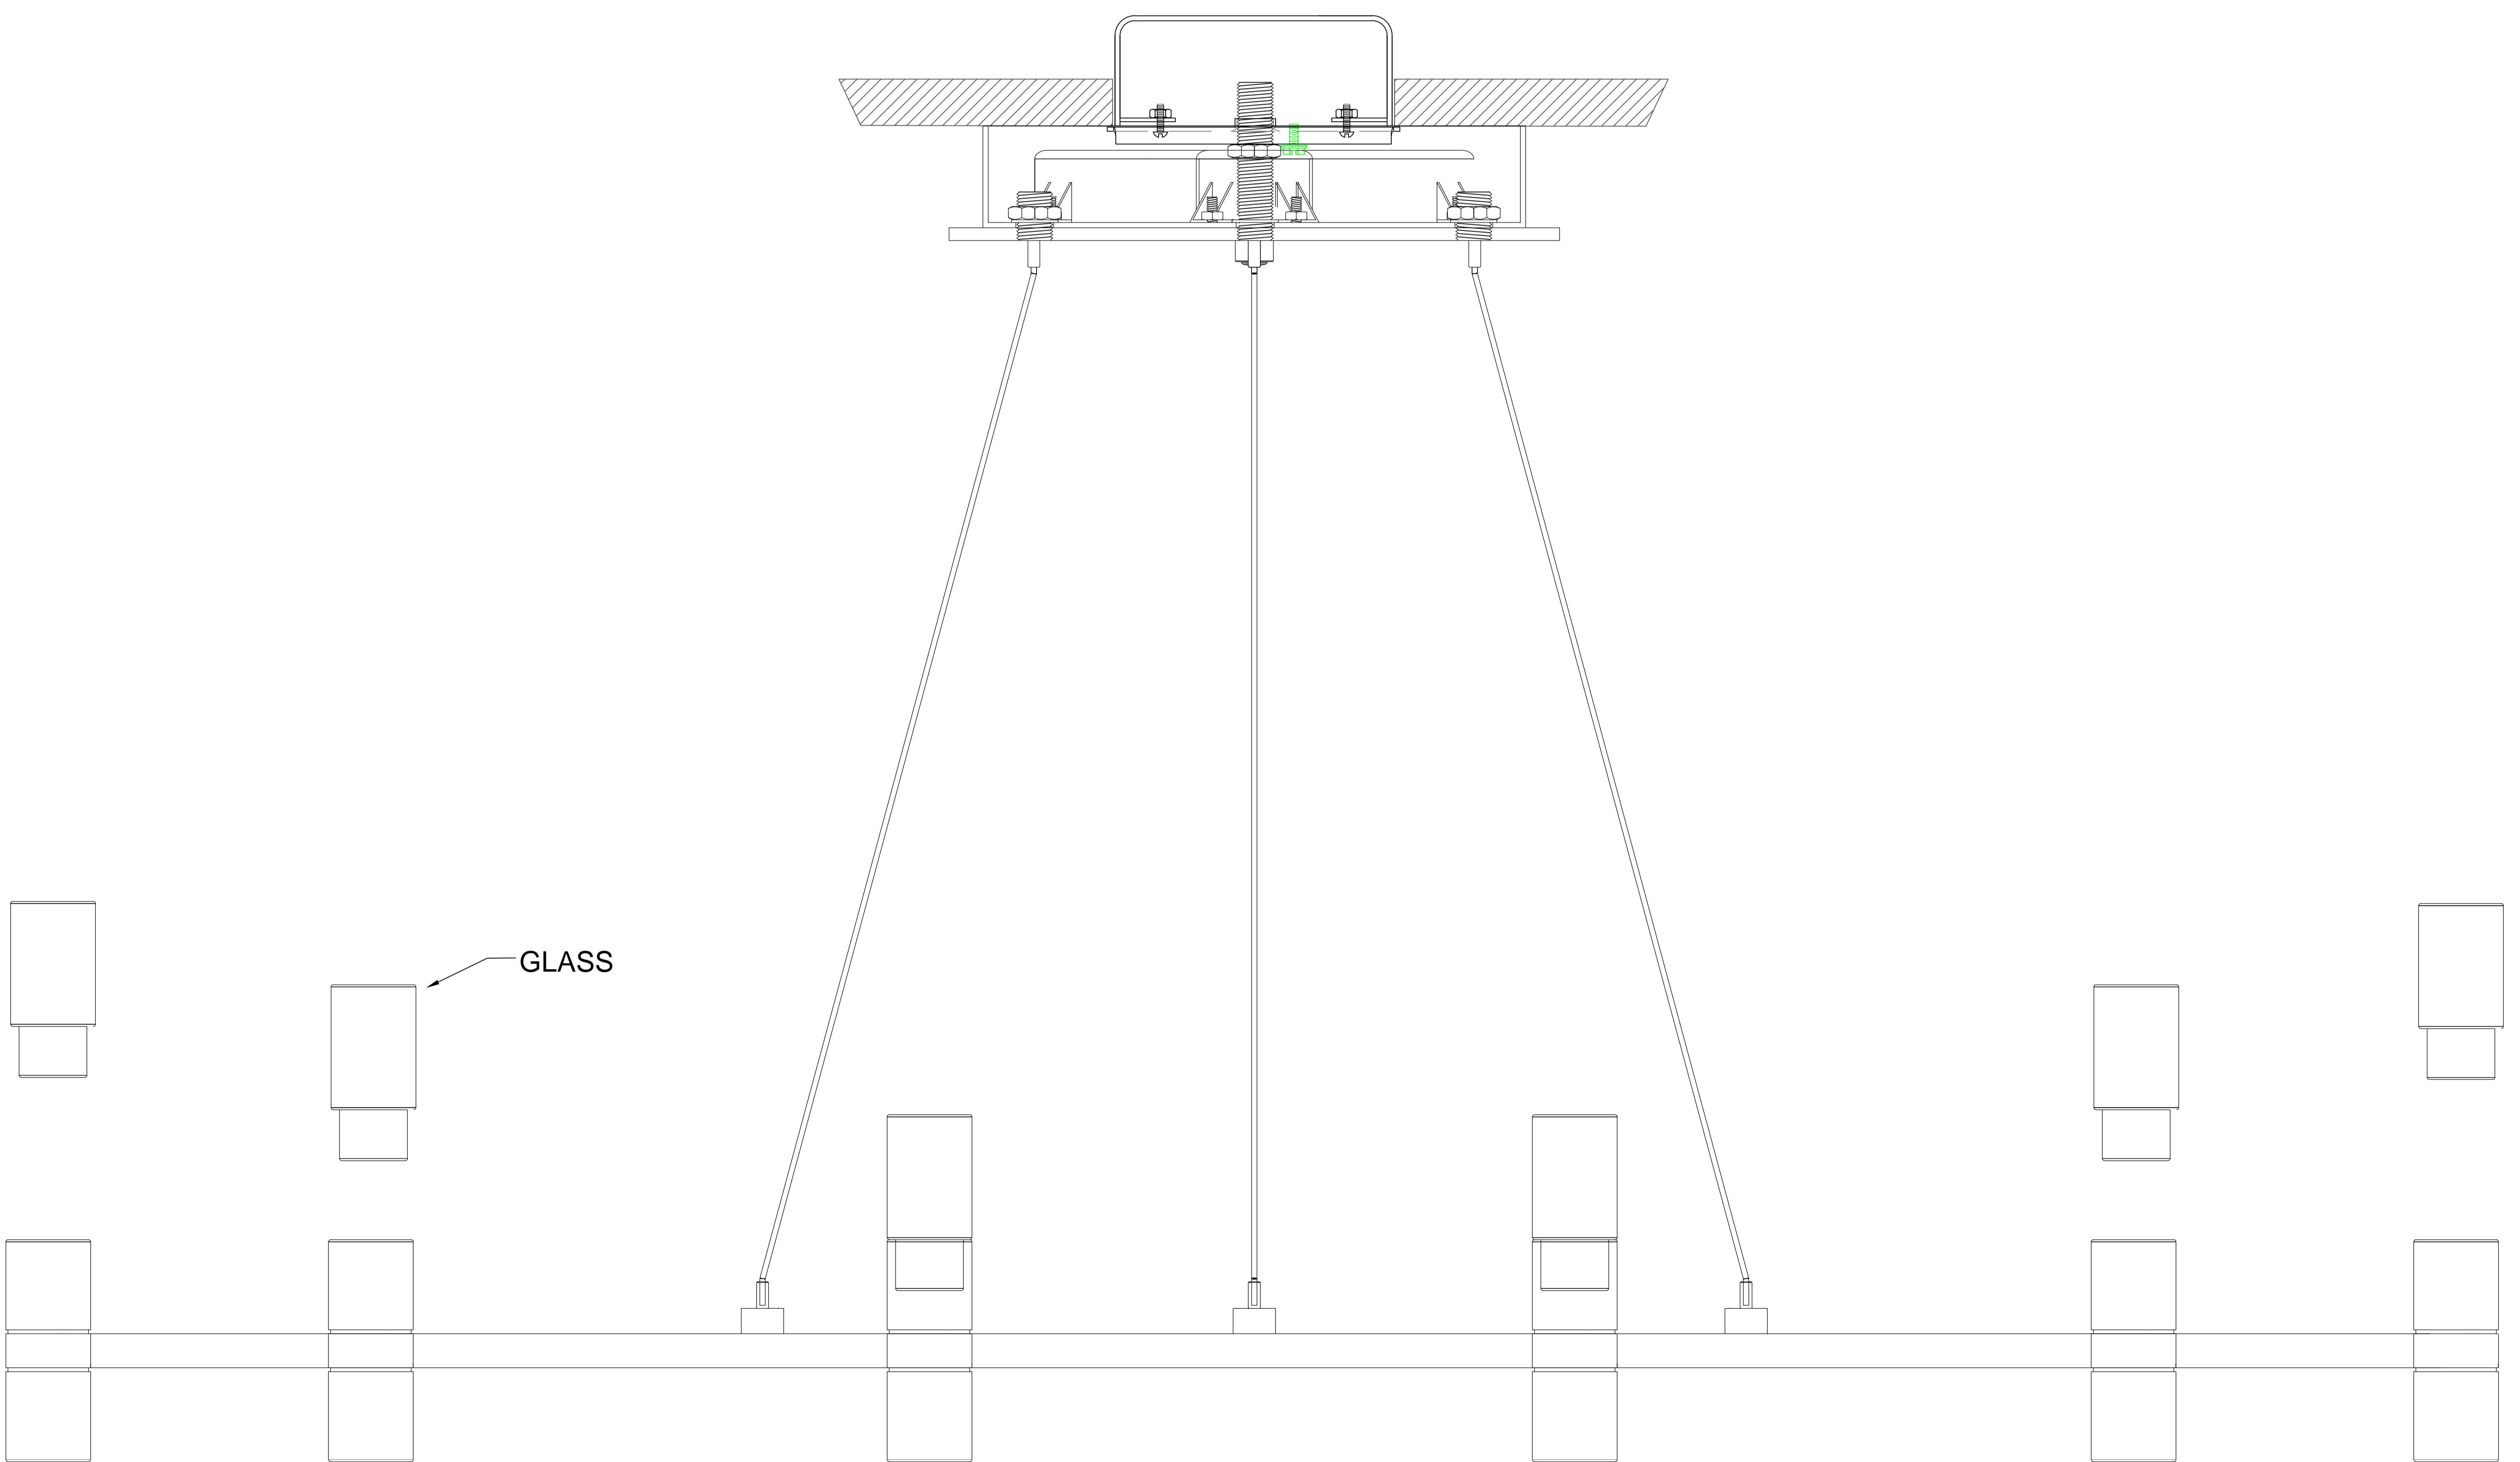

FIGURE-07
14. To level the fixture or change the drop height based on your desire height, push the tab down on the grip lock either pull or push the aircraft cable. Repeat this to all aircraft and coaxial cable until the fixture is level and with the desired height. (Refer to Figure-07)